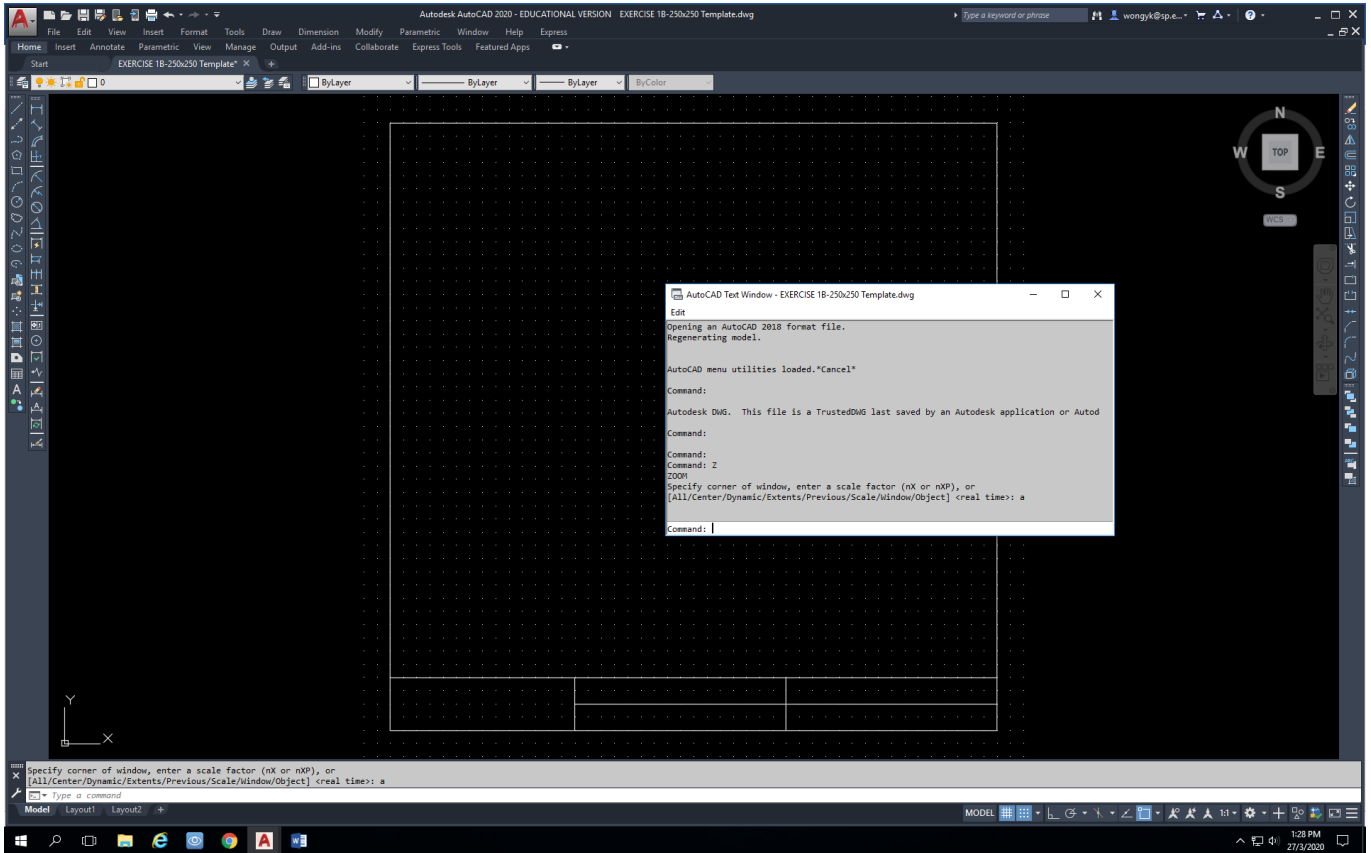

FIG 3
4. See Fig 3 for the steps shown.